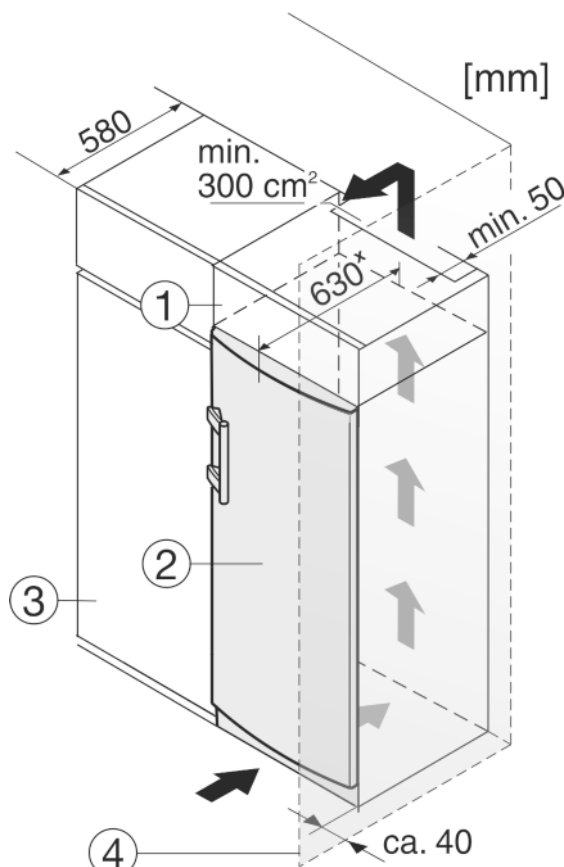

Fig. 11
The appliance can be built into kitchen units. A top cupboard Fig. 11 (2) can be added above the appliance in order to bring the appliance Fig. 11 (1) up to the height of the fitted kitchen units.
When installing with kitchen units (max. depth 580 mm), the appliance can be positioned directly next to the kitchen cabinet Fig. 11 (3). The appliance will project by 34 mm* at the sides and 50 mm* in the centre of the appliance in relation to the kitchen cabinet front.
If the appliance is installed with the hinges next to a wall Fig. 11 (4), the distance between appliance and wall has to be at least 40 mm. This corresponds to the projection of the handle when the door is open.